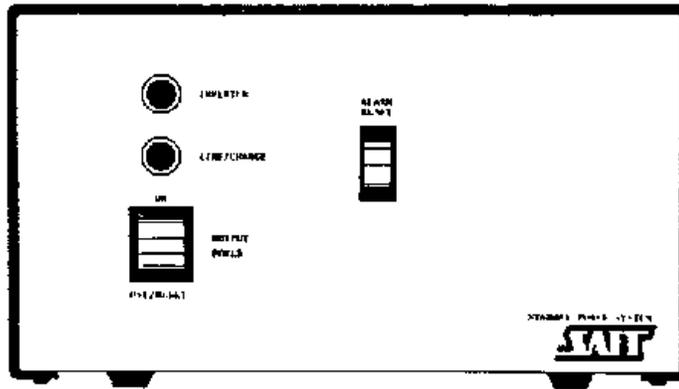

Figure 2. Standby power system, Model SPS 200-117
2. Standby power system, Model SPS 200-117, SAFT America Inc., Electronic Systems Division, 2414 W. 14th St., Tempe, AZ 85281 (Fig. 2).